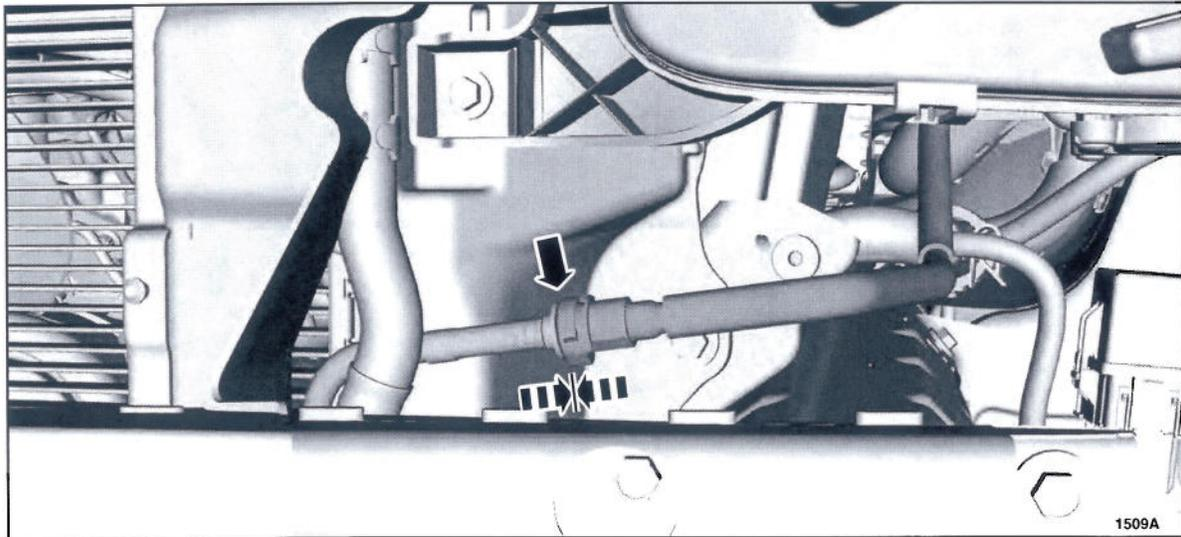

FIGURE 1
3. Locate the two vacuum line quick connect fittings above and behind the driver side of the front bumper. Pull outward on the lines to make sure the quick connect fittings are fully engaged. See Figures 1 and 2.